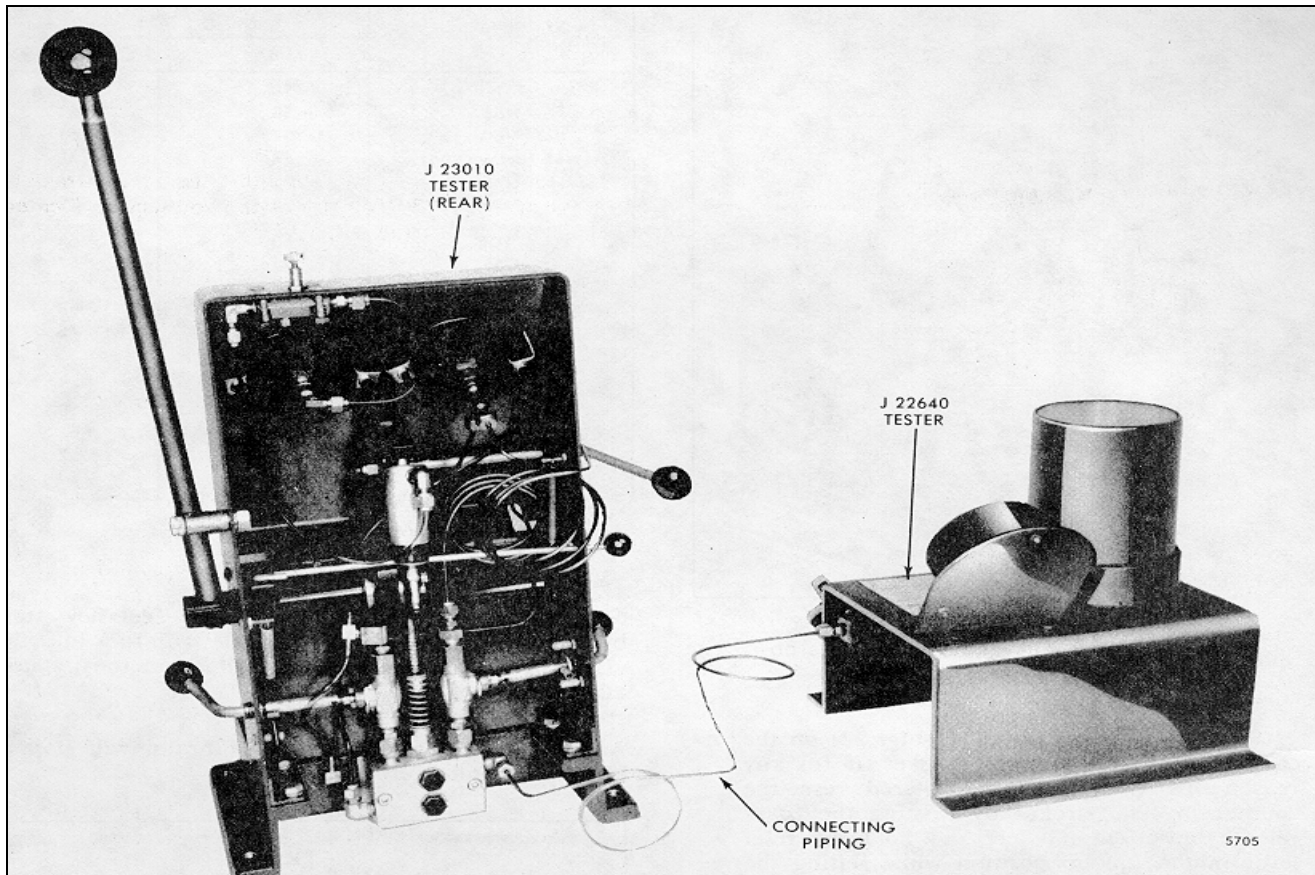

Figure 17 - Injector Needle Valve Tester J 23010 with Auxiliary tester J 22640
1. Connect the pipe from auxiliary tester J 22640 to the rear of the J 23010 tester at the connection located near the bottom of the tester (Fig.17).